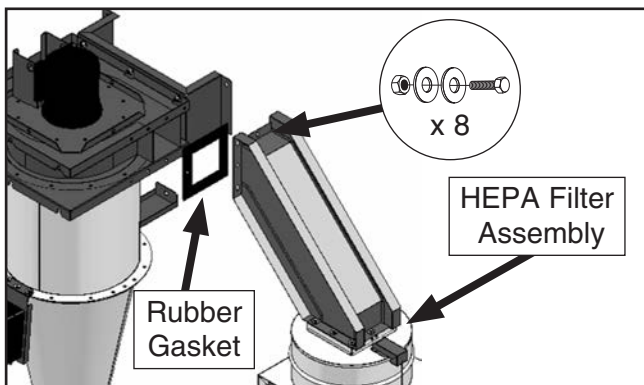

Figure 22. Attaching HEPA filter assembly to wall-mount adapter.
- Attach rubber gasket to blower housing (see **Figure 22**), then secure HEPA filter assembly using (8) $\frac{3}{8}$ "-16 x 1" hex bolts, (16) $\frac{3}{8}$ " flat washers, and (8) $\frac{3}{8}$ " hex nuts.